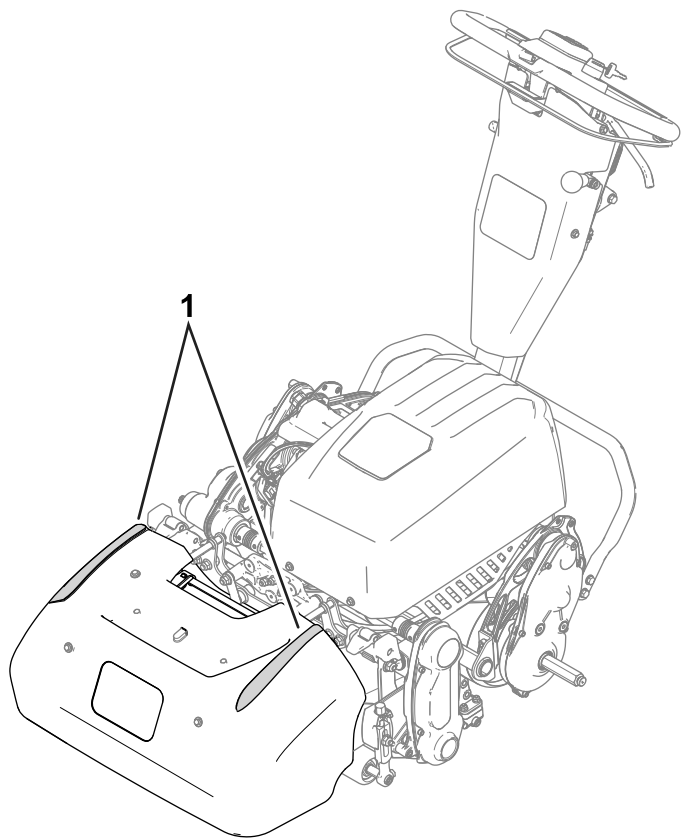

Figure 17
- To assist in maintaining a straight line across the green and to keep the machine an equal distance from the edge of the previous cut, use the alignment stripes on the basket (Figure 17).